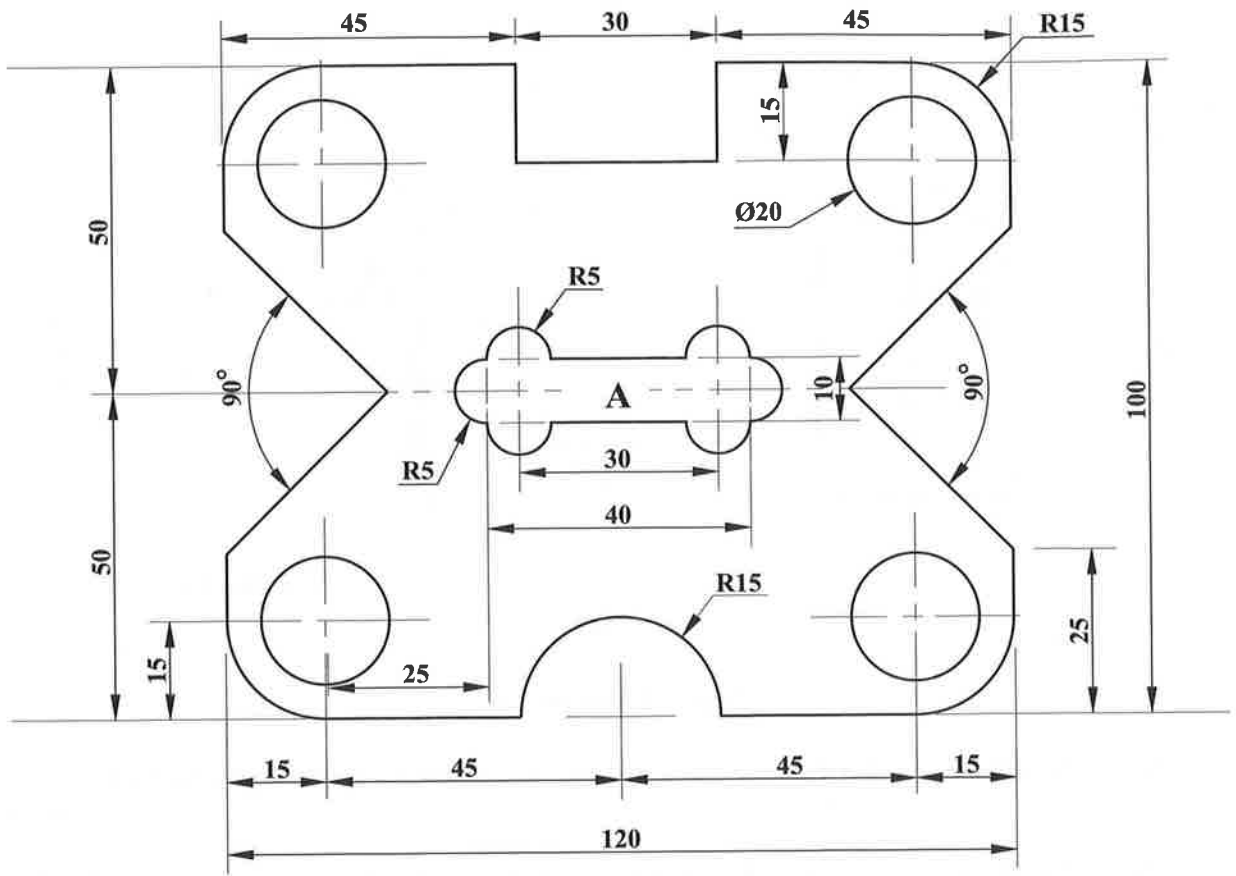

Figure 4. Template
4. Figure 4 shows a template that is to be produced from a sheet of mild steel 3 mm thick by 100 mm wide by 120 mm long. The material has been prepared to the required size and is ready to be marked out.